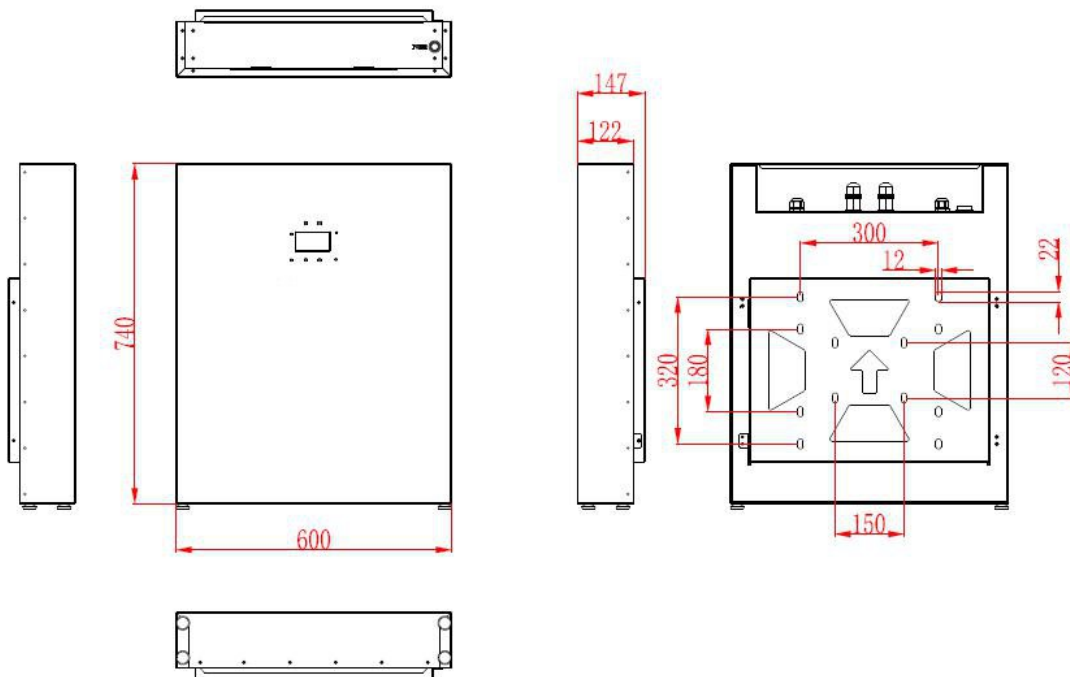
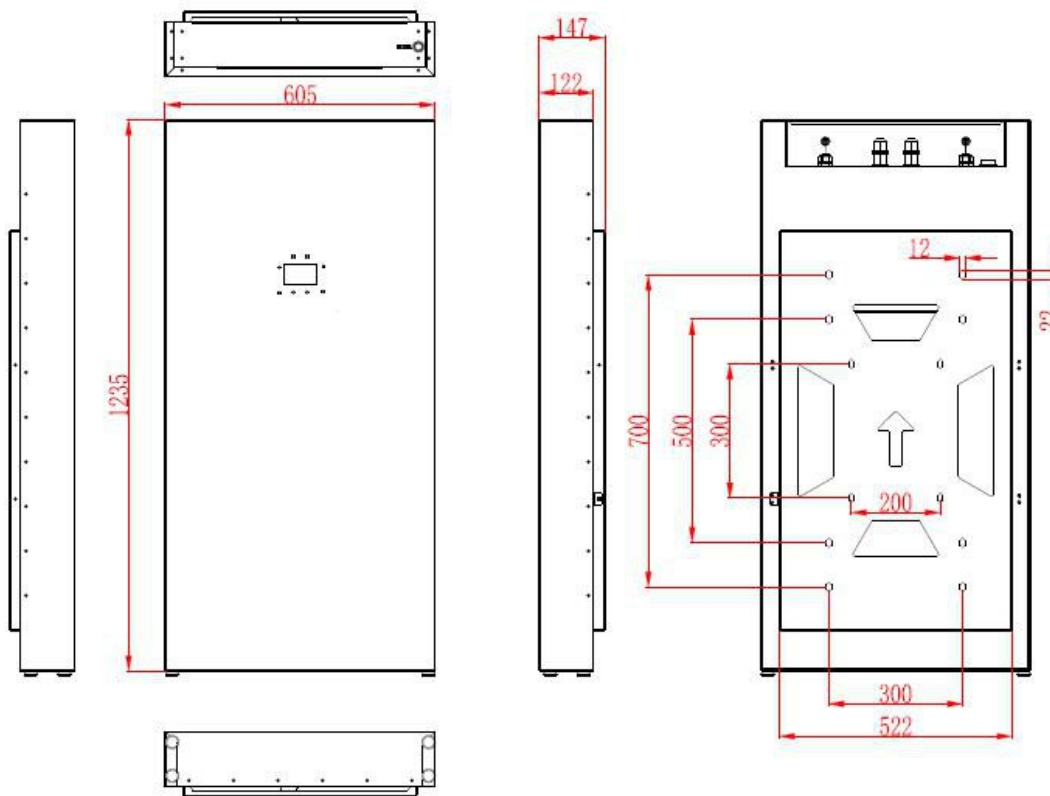

Figure 3-3 (Model V3000/V3000H)
Figure 3-5 (Model V7000/V8000)
B. The installation location must conform to the size of the battery pack. Please refer to Figure 3-5 for dimensions.
Figure 3-3 to Figure 3-5 show the outline of the battery pack and the shape of the wall mounting plate and the mounting hole size for all three models. Please check which model you ordered and take the correct drawing for reference.